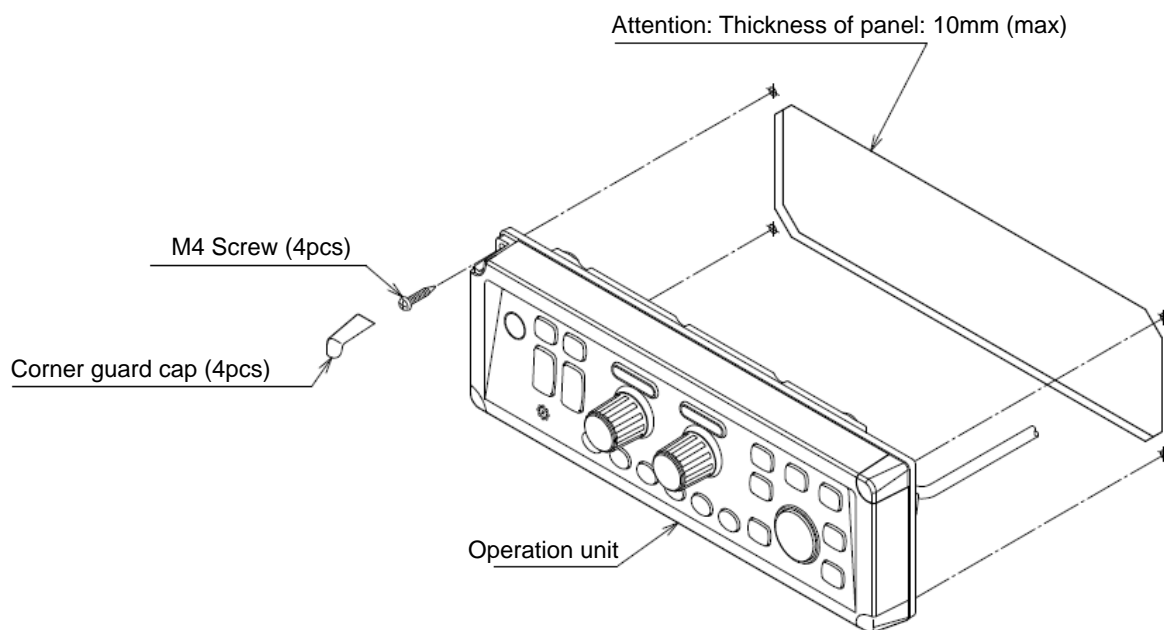

Fig. 1.13 Flush-mount installation of Operation unit
- (2) Remove 4 plastic corner guard caps of the Operation unit (These can be easily pulled out upwards).
- (3) Confirm that the Operation unit matches the square hole. If not matches, correct the square hole.
- (4) Put the Operation unit and connected cable in the square hole, and set it to the position in which the Operation unit becomes parallel to the install panel. (Fig.1-13)
- (5) Install the Operation unit in the installing location (square hole) and fix it with 4 tapping screws (4mm) (M4 or pan-head). (Prepare 4 mm screws suitable for thickness of installing location.)
- (6) Install the corner guard caps removed in step (2).